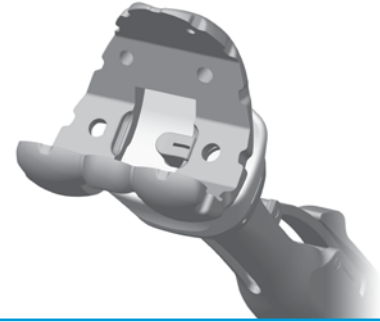

Fig. 32
- Remove any posterior osteophytes or overhanging bone on the femur to facilitate maximum knee flexion. Attach the Femoral Inserter/Extractor to the correct PS Femoral Provisional by inserting the tab on the Femoral Inserter/Extractor arm into the lateral notch in the PS Femoral Provisional and close the handle on the Femoral Inserter/Extractor to secure the PS Femoral Provisional (Fig. 32). Place the correct PS Femoral Provisional onto the femur in the desired medial/lateral position. Impact the end of the Femoral Inserter/Extractor handle and apply an upward force to fully seat the PS Femoral Provisional onto the femur in the proper orientation. (Fig. 33). To remove the Femoral Inserter/Extractor from the PS Femoral Provisional, pinch the release lever on the proximal portion of the Femoral Inserter/Extractor (Fig. 33). Alternatively, if the PS Femoral Provisional is placed on the femur by hand, the PS Femoral Impaction Pad/insertor assembly can be used to impact the provisional into the femur. If this insertion/impaction method is used, the inserter handle must be in the closed and locked position. For additional fixation of the fully seated PS Femoral Provisional, insert the 25mm x 3.2mm screw (2.5mm female hex) with the 2.5mm Male Hex Driver through the hole in the lateral anterior flange of the PS Femoral Provisional (Fig. 34a).